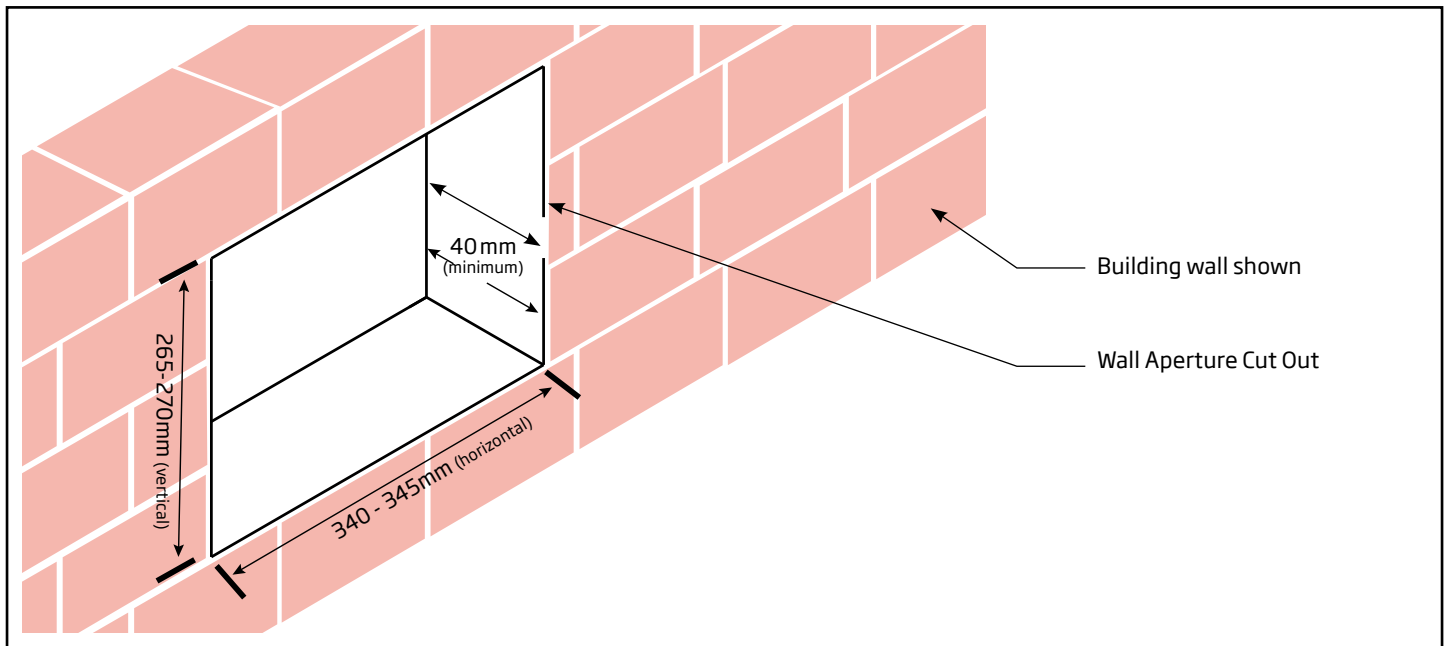
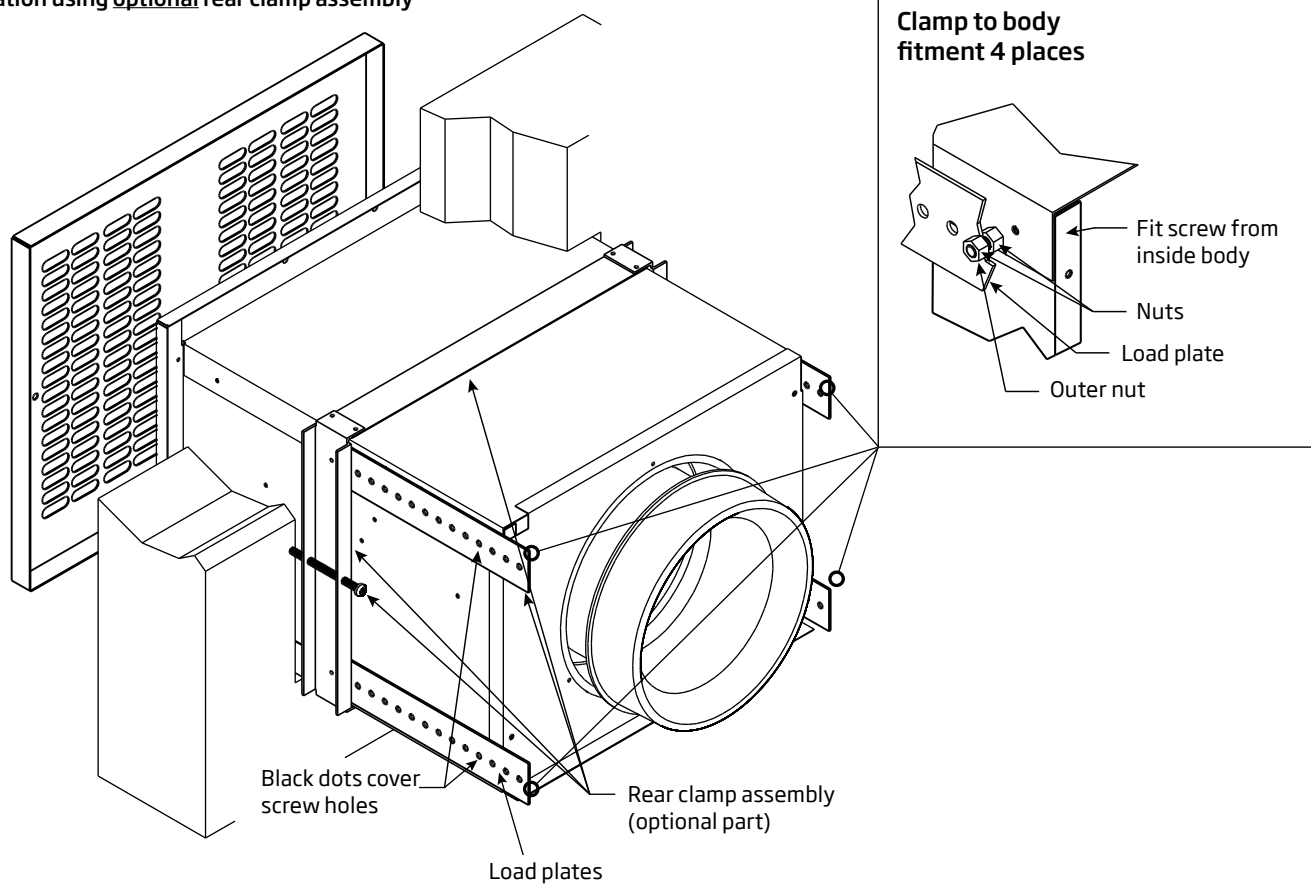

Figure 3
Figure 6
5. Cut a wall aperture with measurements of 340mm horizontally and 265mm vertically ensuring the vertical cuts are at 90 degrees to the horizontal cuts (See Fig.3, pg.12); if you have less than 40mm of depth in the wall aperture – or the wall requires extra stability for the motor housing to be installed – you may need to reinforce the wall with noggins and use the optional rear mounting bracket (See Optional Accessories, page 7, and Figure 6, page 13).
Note: If you require extra support to stabilise the motor housing, you may use the optional accessory: *rear clamping assembly* (attachment screws not necessary), (see Fig.6, pg. 13).